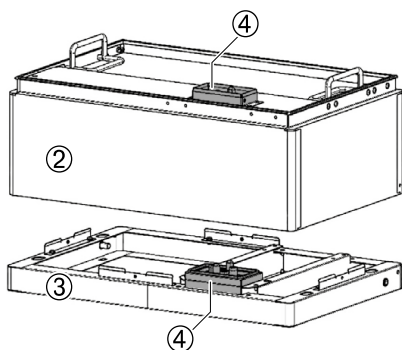

Fig. 3.5 - Battery Module onto the Base
- Adjust to keep the connector of the battery (2, Fig. 3.5) align with the connector of the base (4, Fig. 3.5). Slowly put down the battery, fitting it properly onto the base (3, Fig. 3.5) prestando attenzione all'allineamento dei rispettivi connettori (4, Fig. 3.5).